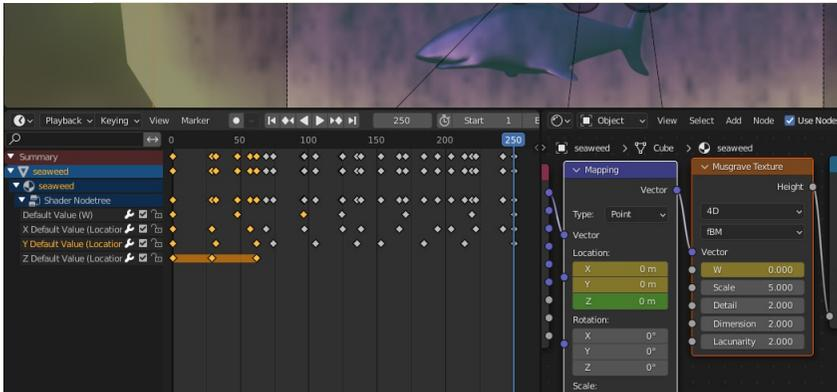

Figure 10-6 Node Setup to Animate a Volume Texture
different then when you copy and paste the keyframes they should produce a more random looking effect. Figure 10-6 shows the Timeline with one repeat of keyframes selected.
6. On the Timeline you can drag individual keyframes backwards or forwards in time. Use this to change the positions of the X and Y key frames slightly then copy and paste the two variables separately so they are out of phase. If you look carefully at Figure 10-6 you will see how the keyframes are arranged to make the animation appear more random.